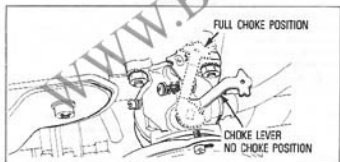

Figure 3
A. Move CHOKE LEVER on engine (see Figure 3) or remote control on equipment to FULL CHOKE POSITION.
- B. Crank engine until engine fires and when engine starts, move CHOKE LEVER (see Figure 3) on engine or remote control on equipment to 1/2 choke and then to NO CHOKE POSITION.
A. Move **CHOKE LEVER** (see Figure 3) on engine or remote control on equipment to **NO CHOKE POSITION**.